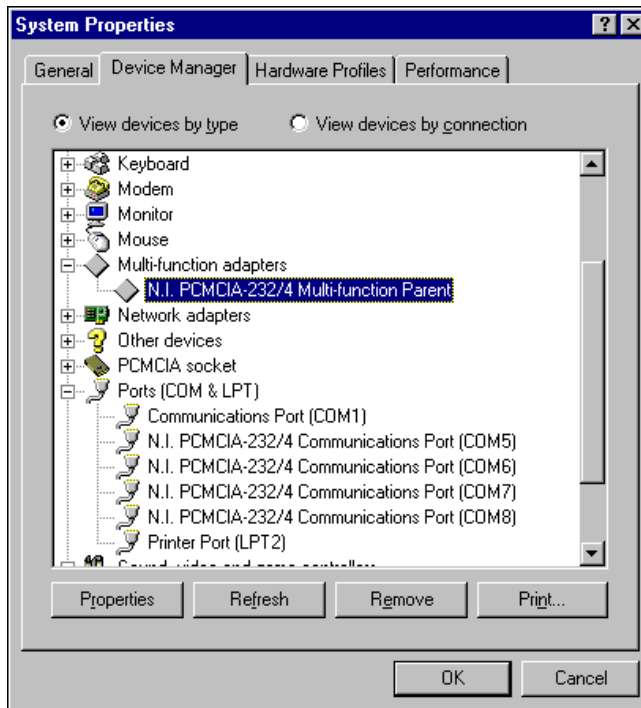

Figure C-8. Selecting an Interface to Uninstall
5. Select the National Instruments port to remove from the list of ports, as shown in Figure C-8.